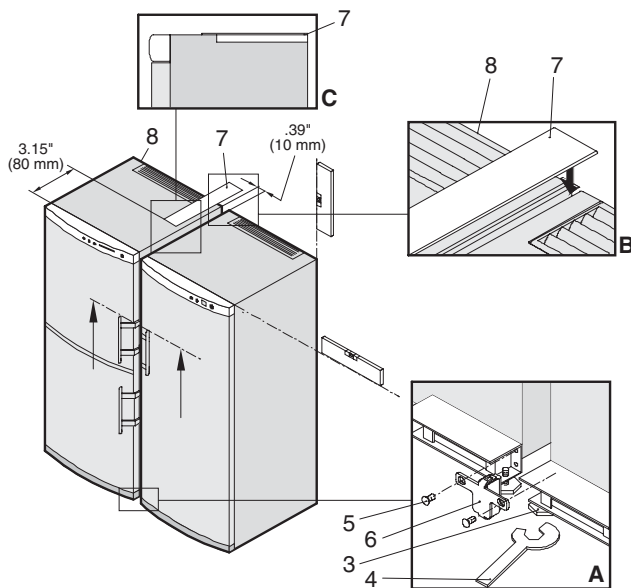

Figure 26
4. Using the spanner provided (**Fig. 26 A, 4**), align the appliances height by turning the adjustable roller base. (**Fig. 26, 3**). Use a level if necessary.
5. Remove the top set of screws at the bottom of the front of the appliance (**Fig. 26, 5**). Before screwing on the small attachment bracket (**Fig. 26, 6**), push the appliances together and realign if necessary. Then screw on the attachment bracket (**Fig. 26, 6**) tightly using the screws (**Fig. 26, 5**).
Remove the film from the adhesive strip and stick the profile along the center of the gap, (**Fig. 26 B**).
*Make sure the profile is flush with the back edge of the appliance (**Fig. 26 B, 7**) and the recess is pointing toward you (**Fig. 26 C**).*